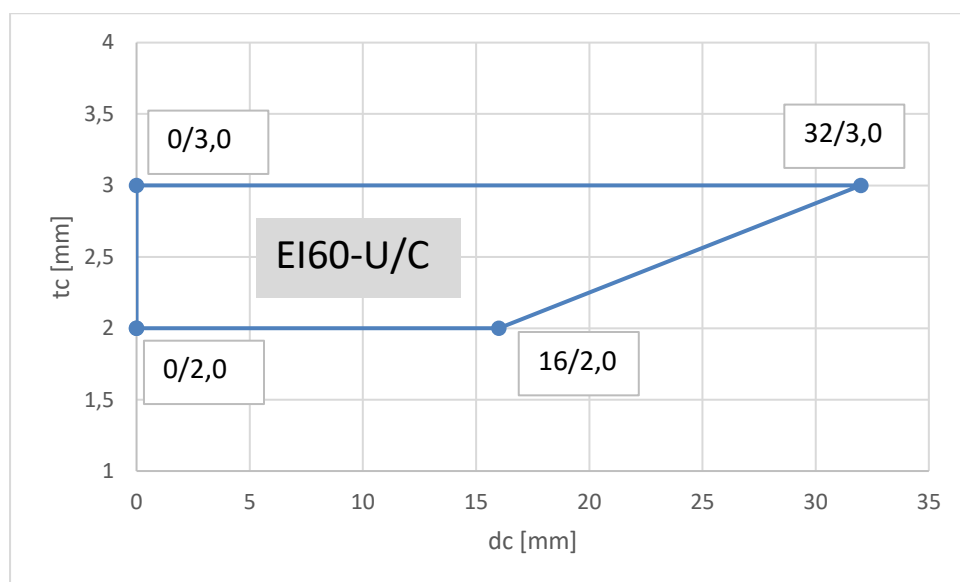

Figure 51: Classified range for insulated Uponor Unipipe plus, sealed with CFS-IS in CFS-CT HDB
Classification given in Figure 51 is valid for:
- For dimension refer to Figure 51